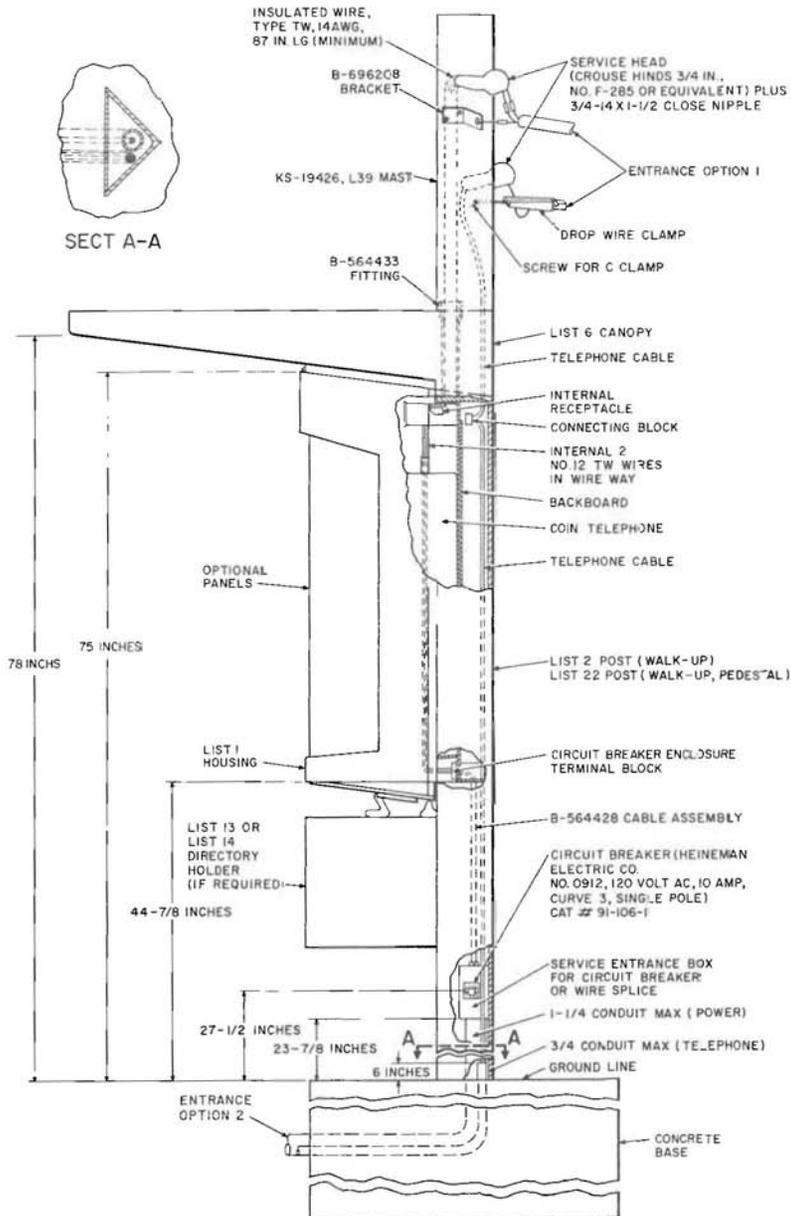

Fig. 17—Installation Requirements for Post or Pedestal Mounting, Walk-Up Location
3.40 Embed KS-19426, List 2 post(s), for walk-up mountings, or KS-19426, List 3 post(s), for drive-up mountings, in the center of the base to concur with the dimensions shown in Fig. 17 or 18.
- 3.57 The wiring for a post mounting may enter from the ground or from a mast (Fig. 17, or 18).